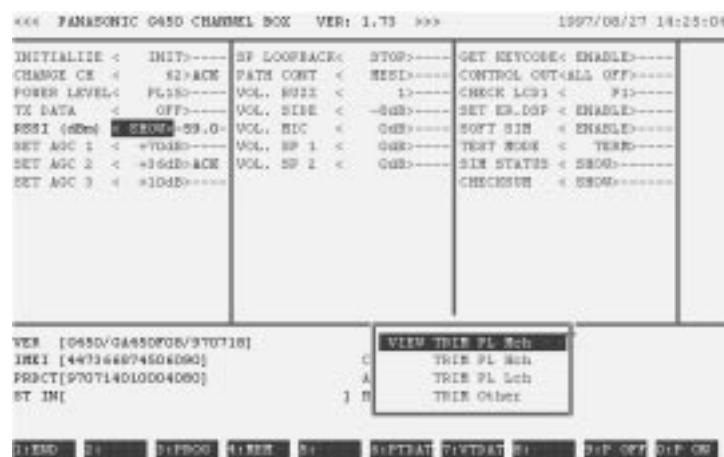

Figure 16: RSSI reading 1 450-0716
- 7. Figure 16 At the C press 7 select TRIM other. Make a note of the RSSI on the measure channel reading press ESC.